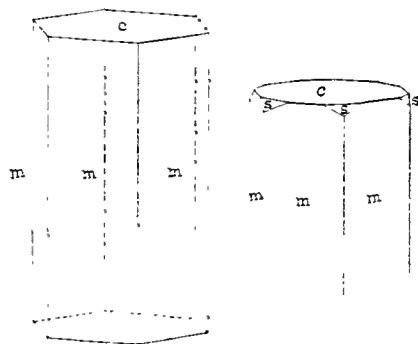

Figure 171, 172. Common Forms of Beryl Crystals
*Form*: Almost always it is found in simple hexagonal prisms, figures 171, 173, but magnificent specimens are to be seen in large collections with one or more pyramidal faces, figure 172, replacing the usual flat termination.